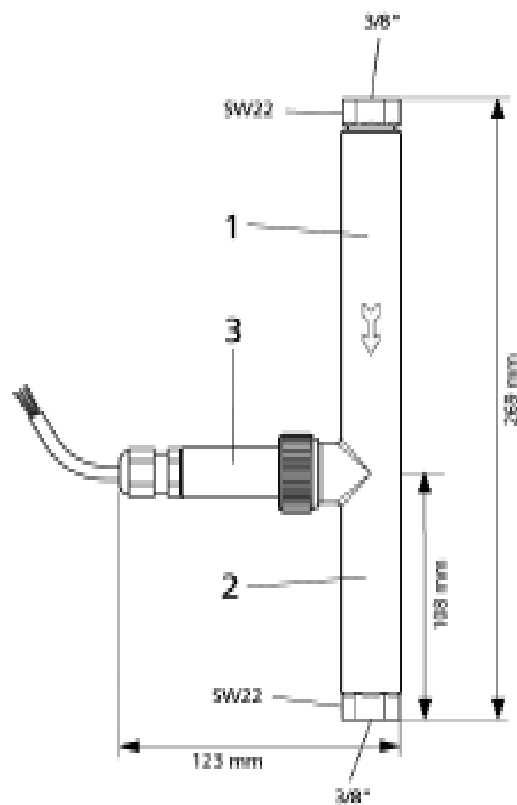

Fig. 1: Measuring value sensor VAPORIX-Flow
The measuring value sensor is made up of a measuring pipe with an inlet section (1) and an outlet section (2), as well as the sensor casing on the side (3) (see Fig. 1).